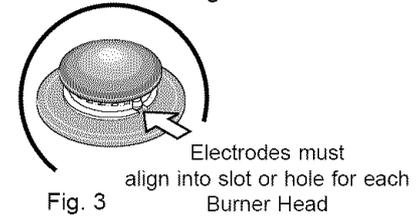

Fig. 3
- Match the letters stamped on Burner Skirts with Burner Heads and Burner Caps (See Fig. 1). Replace the Burner Heads and Caps on cooktop (See Fig. 2). Carefully align the Electrodes into slot or hole of each Burner Head (Fig. 3). Note: The Burner Heads should sit flat on Cooktop Burner Skirts.